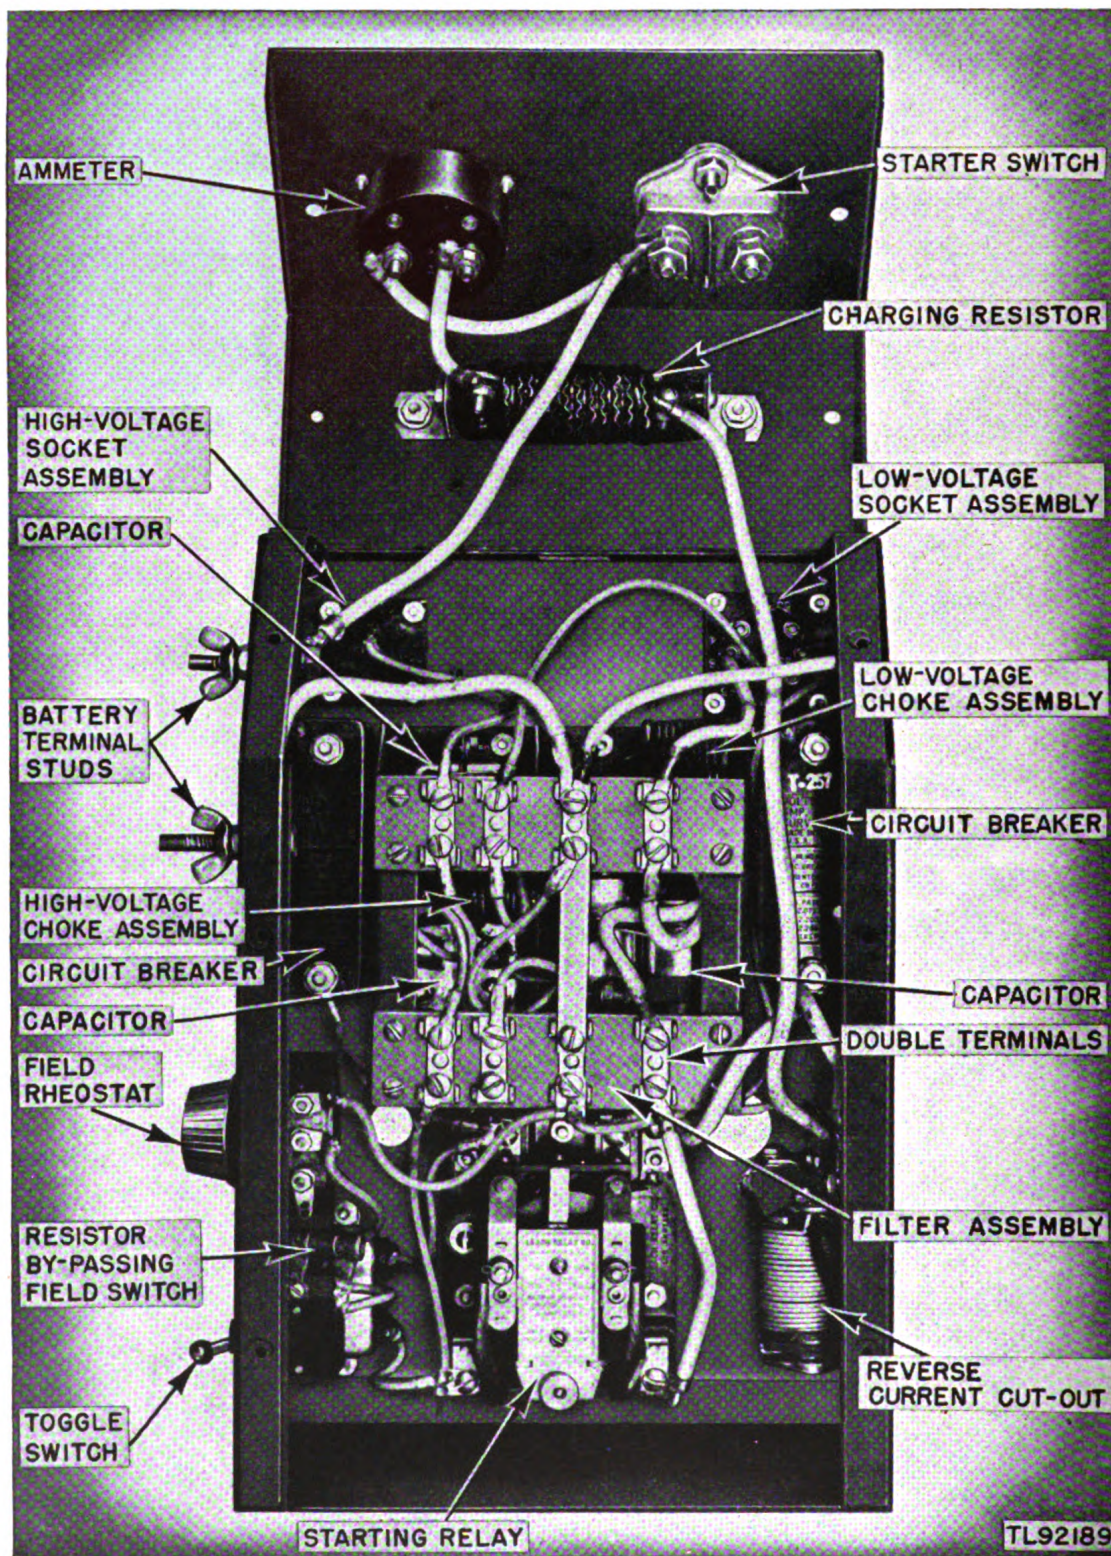

Figure 46. Control box for Power Unit PE-49-G—interior view.
(3) Lift top and lay toward generator as far as leads will allow.
(4) Remove cover to be treated later.
(5) Remove field lead from FIELD SWITCH. (See fig. 46(856).)
(7) Remove armature lead from top terminal of low-voltage circuit breaker (See fig. 46 (859).)
(8) Remove single lead connecting the exciter of the generator to the starter switch terminal. (See figs. 46 and 51 (874).)